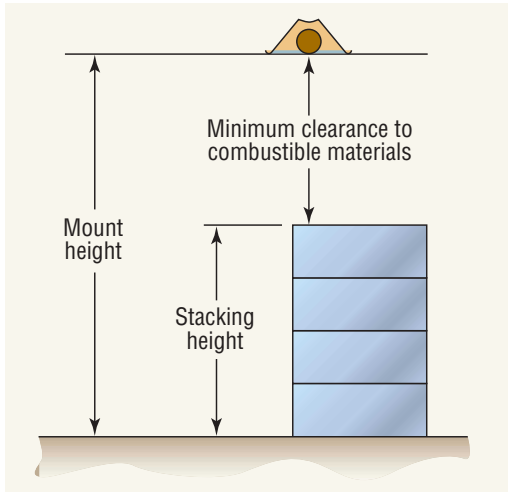

FIGURE 2.1 Post maximum stacking heights below infrared heaters.
- Stacked materials (signs are to be posted in locations with stacked materials to indicate the maximum permissible stacking height (Figure 2.1).